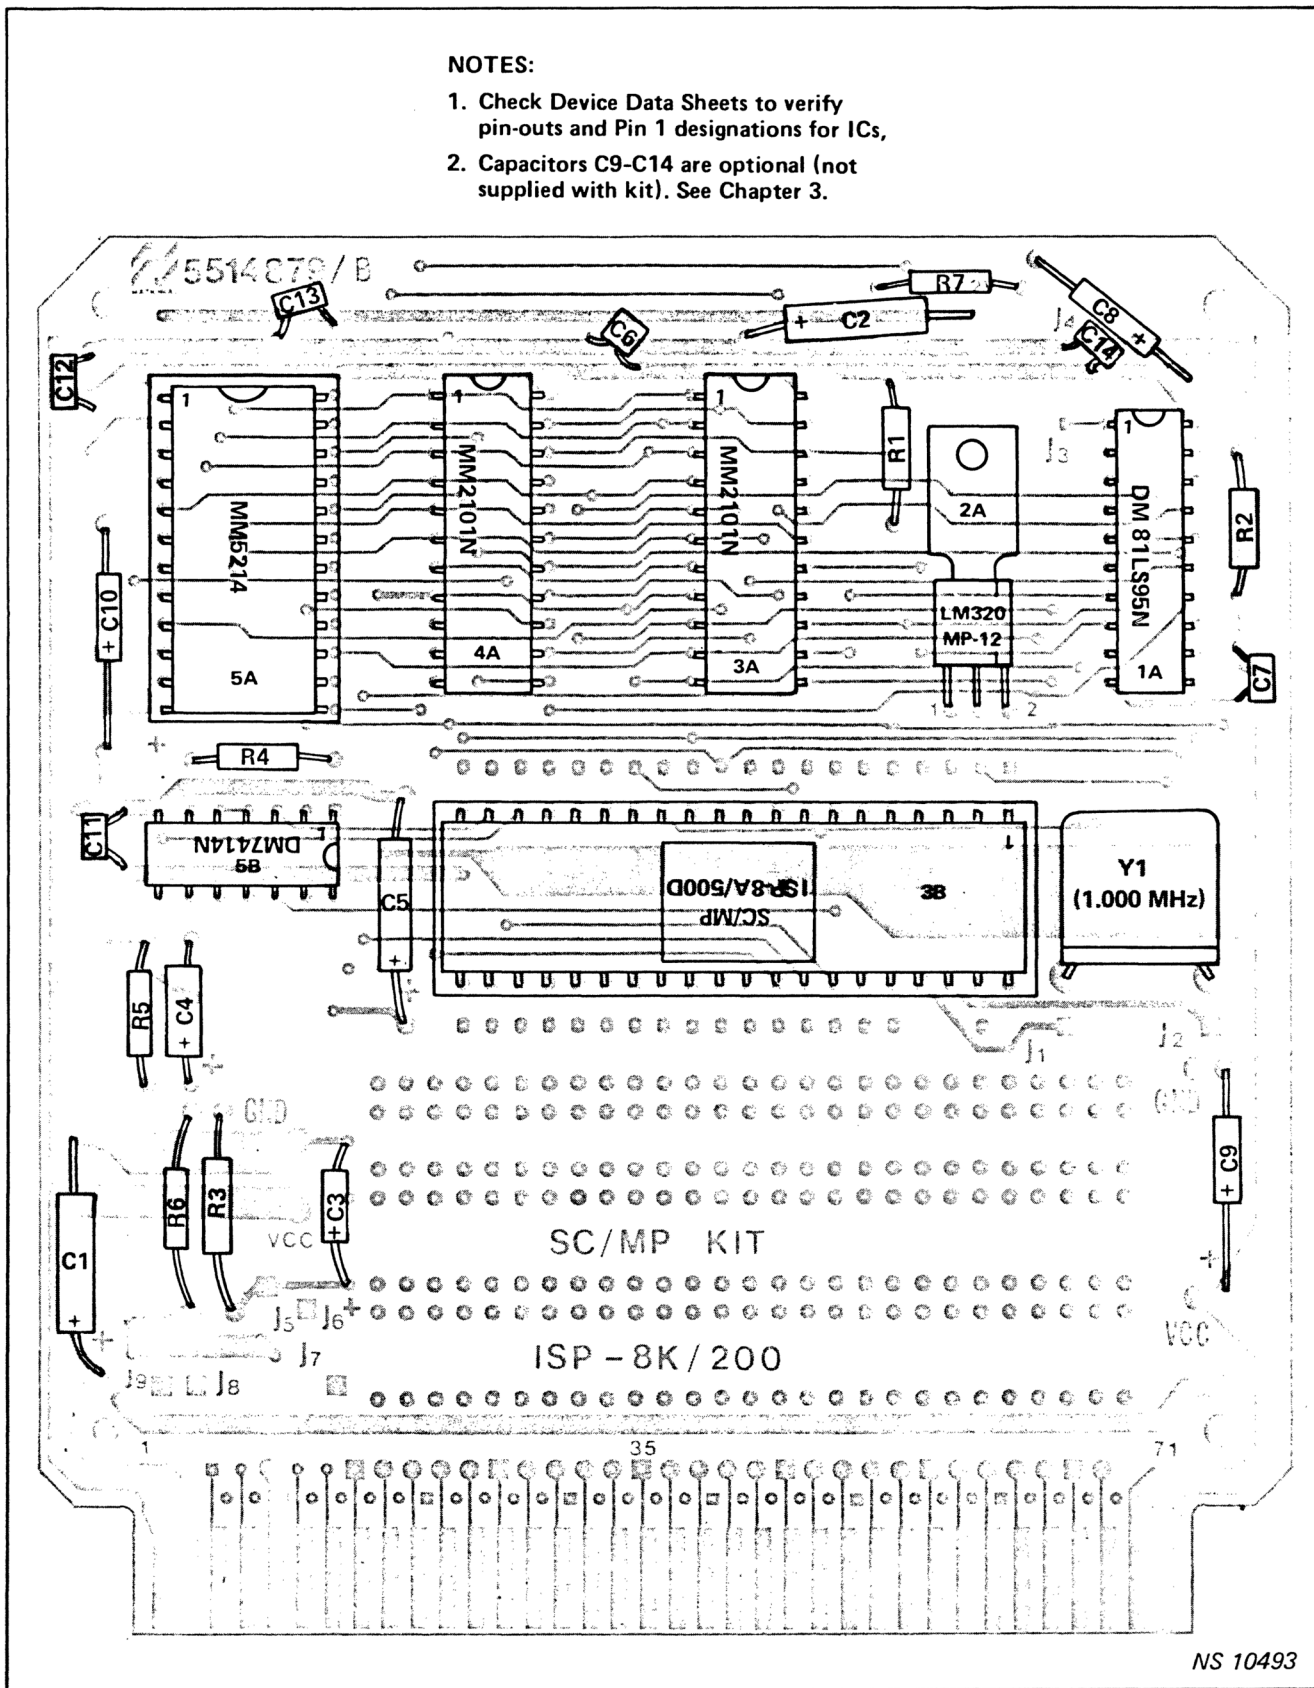
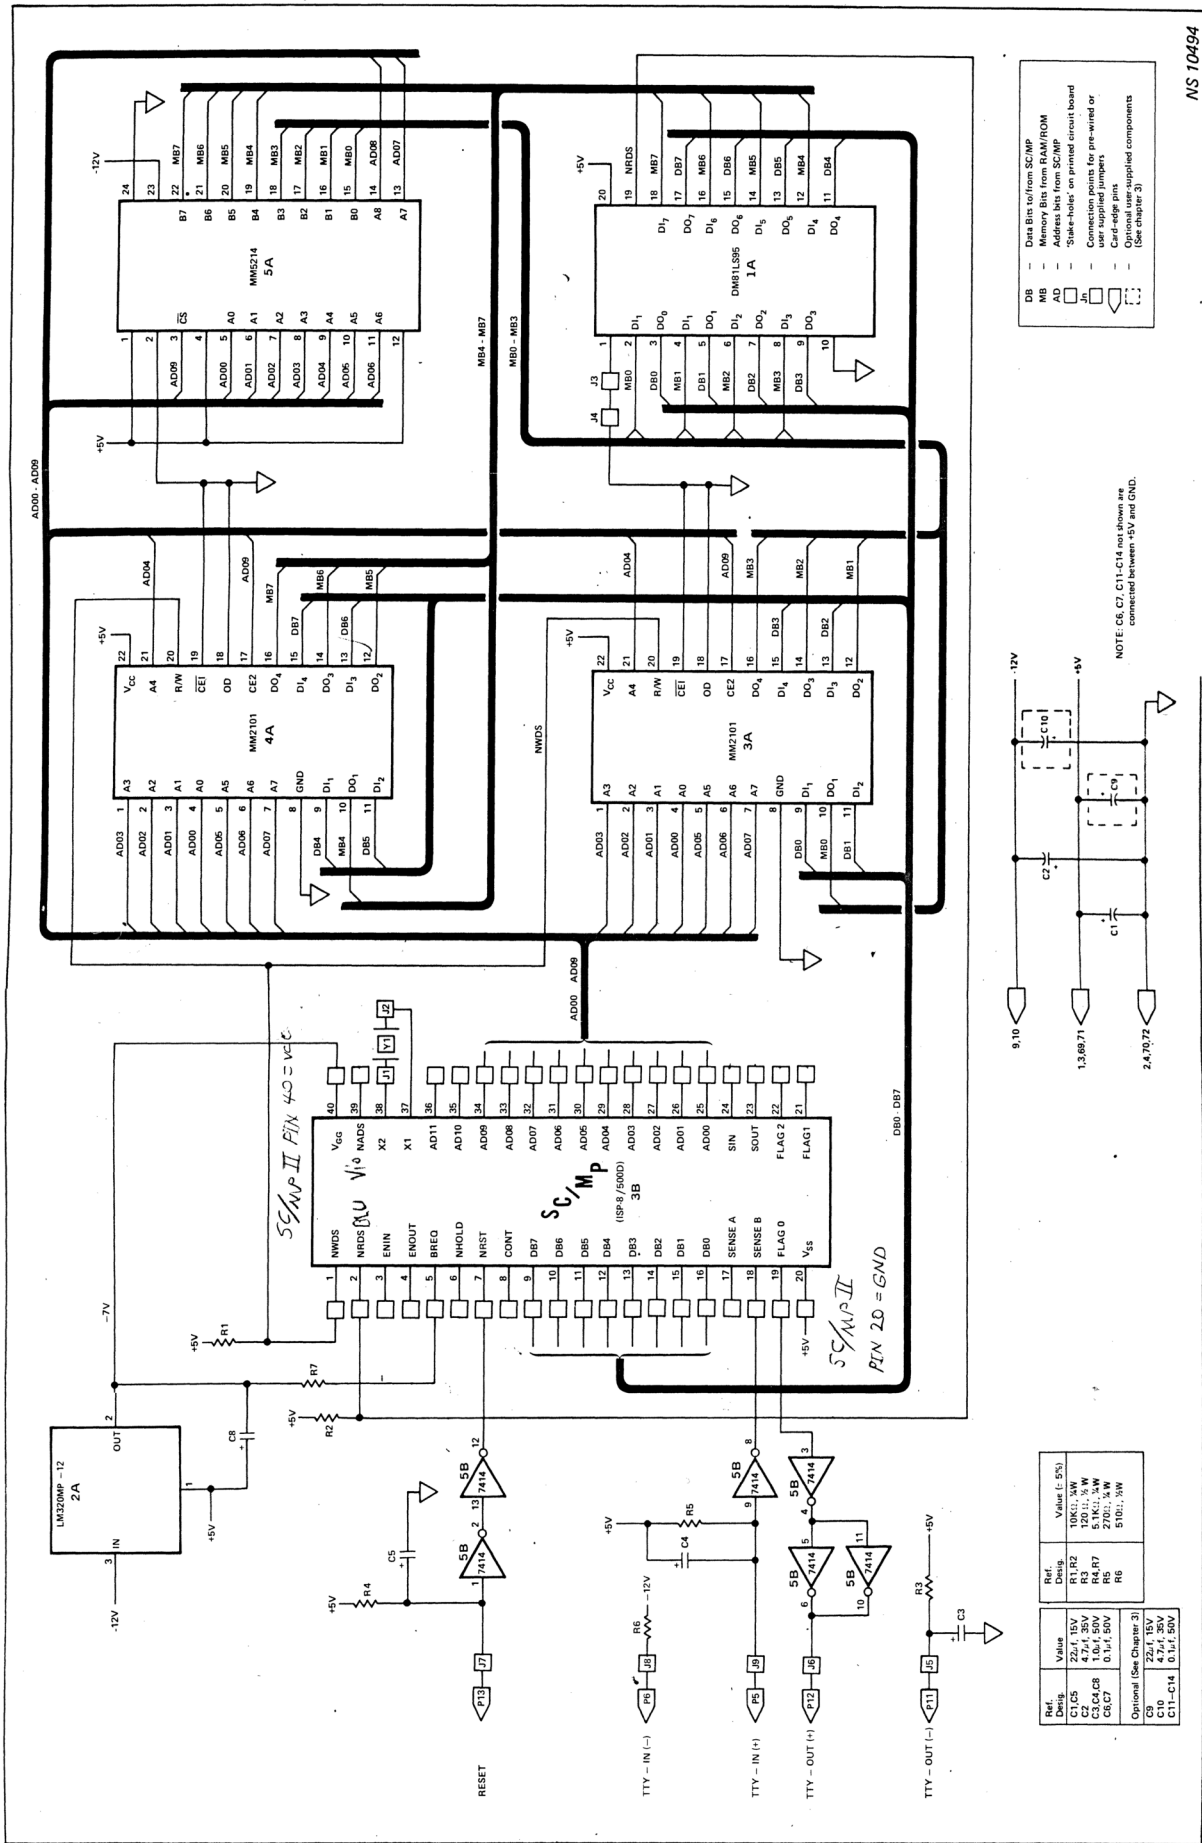

Figure 2-1. SC/MP Kit Component Locations
Figure 2-2. SC/MP Kit Schematic
All of the SC/MP signals are available at "stake holes" on the card: the desired signals can be easily wired to the edge-connector pins, thus allowing complete flexibility in designating the connections to the card-edge. The stake holes are located along each side of the SC/MP chip next to the holes in which the chip itself is mounted and can be seen in figure 2-1. On the kit schematic (figure 2-2), the stake holes are indicated by the small square boxes located on the SC/MP signal lines adjacent to each SC/MP pin. The TTY interface signals, the Reset input signal, and the power inputs are already wired to the card-edge pins. The pin assignments for these signals are shown in figure 2-2.
Once the parts are counted and identified, they can be mounted on the board and soldered in place. It is recommended that components be installed in the following sequence:—first, all discrete parts (capacitors and resistors); next, all integrated circuits; and last, crystal Y1. (A piece of double-sided foam tape is supplied with the kit and should be placed between the printed circuit board and the case of the crystal to prevent accidental grounding of the crystal.) This order of assembly allows the board to be relatively flat during all soldering operations. The layout of the printed circuit board and mounted components are shown in figure 2-1. The figure provides explicit detail of where each component goes. To guarantee a successful job, the "DOs" and "DON'Ts" listed below must be followed to the letter. Figure 2-2 is a schematic diagram of the assembled kit.
- DO make certain that polarized capacitors are properly mounted. If a “+” does not appear on the case, the lead with the solder “blob” is positive. Where applicable, the “+” symbol is shown in figure 2-1.
- DO NOT solder an integrated circuit until the pin orientation matches that shown in figure 2-1—Pin #1 goes in the hole with the square pad. Pin #1 can be identified usually by a recessed dot adjacent to this particular pin; there is no identifying mark for other pins.
- DO NOT solder from the component side; once the leads are inserted in the proper holes (figure 2-1), turn the card over and fill the pad with molten solder. Then, neatly trim the excess lead length as flush as possible with the soldered connection. (Note: There is no need to trim the integrated circuit or socket leads.)
The values and electrical locations for these optional user-supplied capacitors (C9-C14) are shown on the kit schematic (figure 2-2). The corresponding physical locations are shown in figure 2-1.